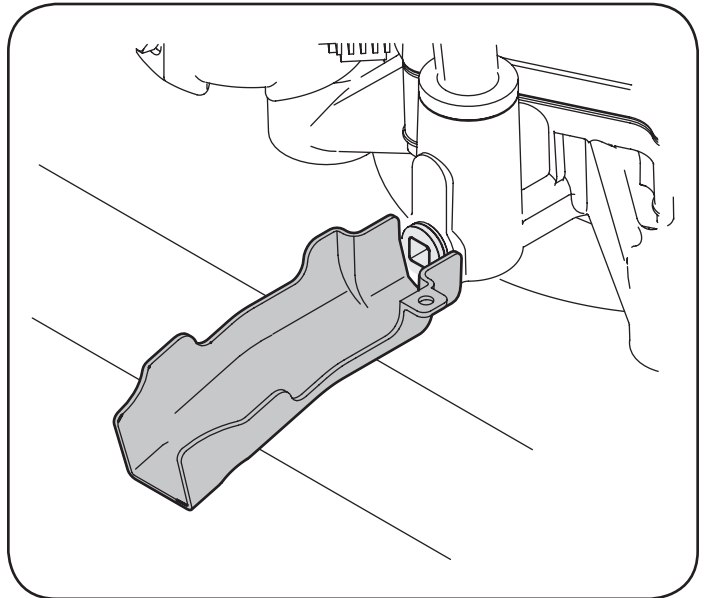

Figure 22
2. Snap the small end of oil drain sleeve onto the oil sump. See Figure 22.